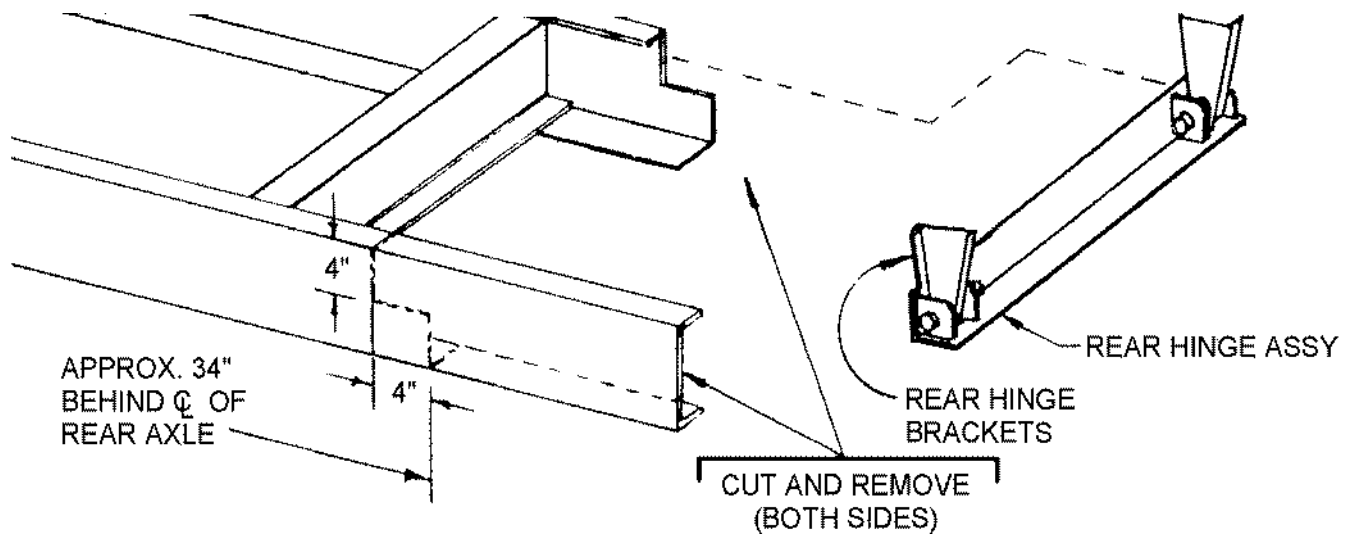

Figure 2 - Frame Modification and Rear Hinge Attachment
- B. Cut a 90° slot in each side of the frame as shown in Figure 2.